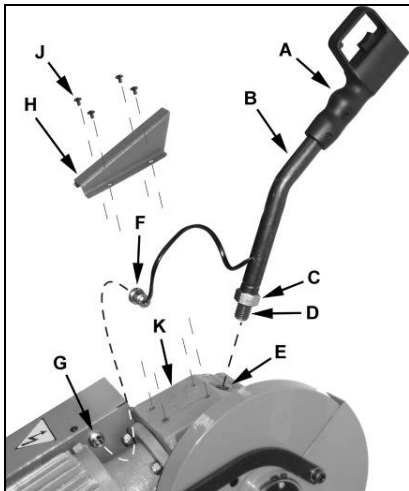

Fig 1
Screw the threaded end (D, Fig 1) of the operating handle (B) into the threaded opening (E).